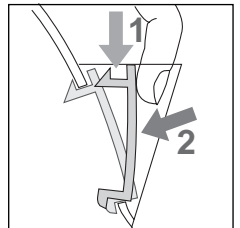

Fig.3
- After the kettle has been rinsed out, re-fit the filter (fig. 3).
- Replace the filter (fig. 3).